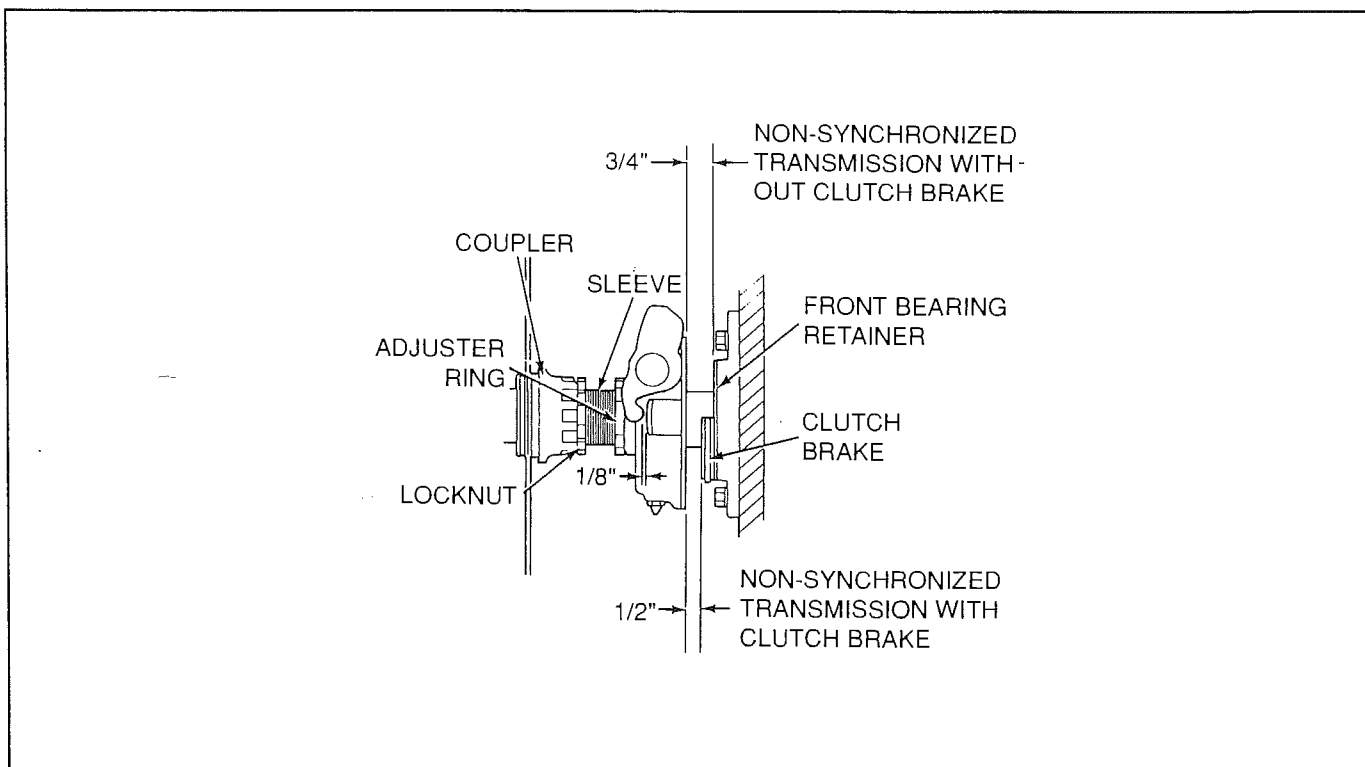

Figure 11-11. Release Bearing Travel Gap on Non-Synchronized Transmissions
2. Using the adjuster ring, rotate the release bearing threaded sleeve into or out of the release bearing coupler to obtain the specified gap at the rear of the release bearing (see Fig. 11-11 and Table 11-1 for specified gap). Measure this gap with an appropriate tool.